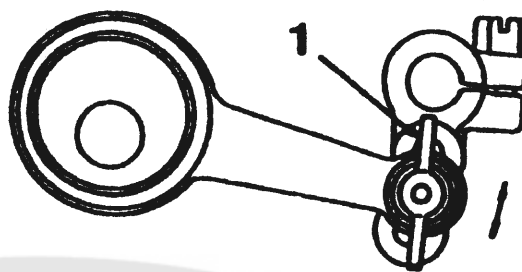

Fig.11
13. ADJUST THE LIFT OF THE ALTERNATING PRESSER FOOT: (Fig. 11)